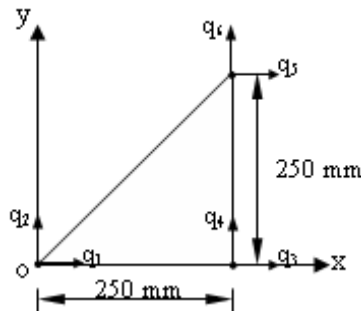

Figure 2
3. Calculate the element stresses for the element shown in Figure 2 for plane stress and plane strain condition when nodal displacements are as given below: